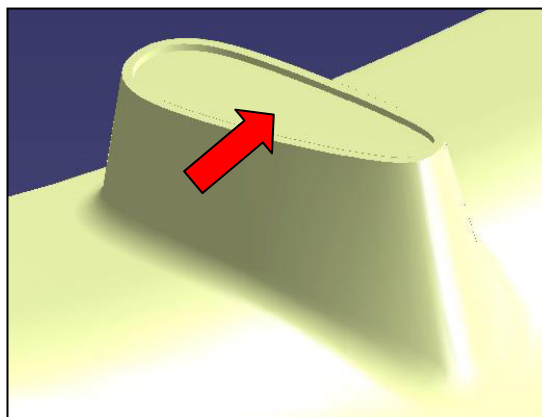

Fig. 11: Gluing surface (arrow)
22. Remove the protective foils from the gluing surfaces of the ABT rear wing (fig. 11, arrow). If necessary, clean the threaded inserts.